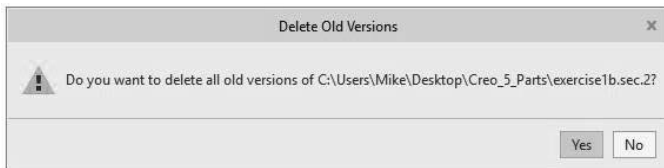

Figure 3-67 Accept Command Actions
Step 34: Pick **Yes** to remove all previously saved versions of this file in your working directory (Figure 3-67).